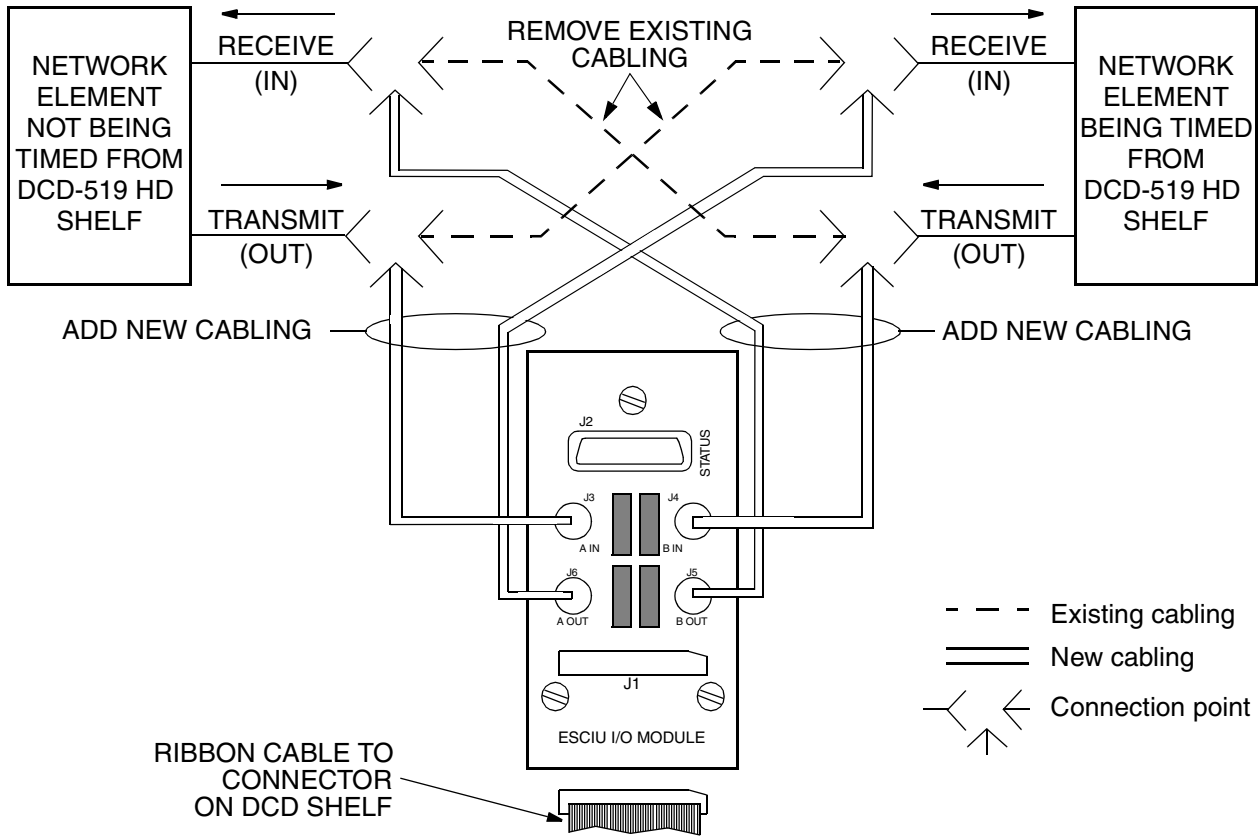
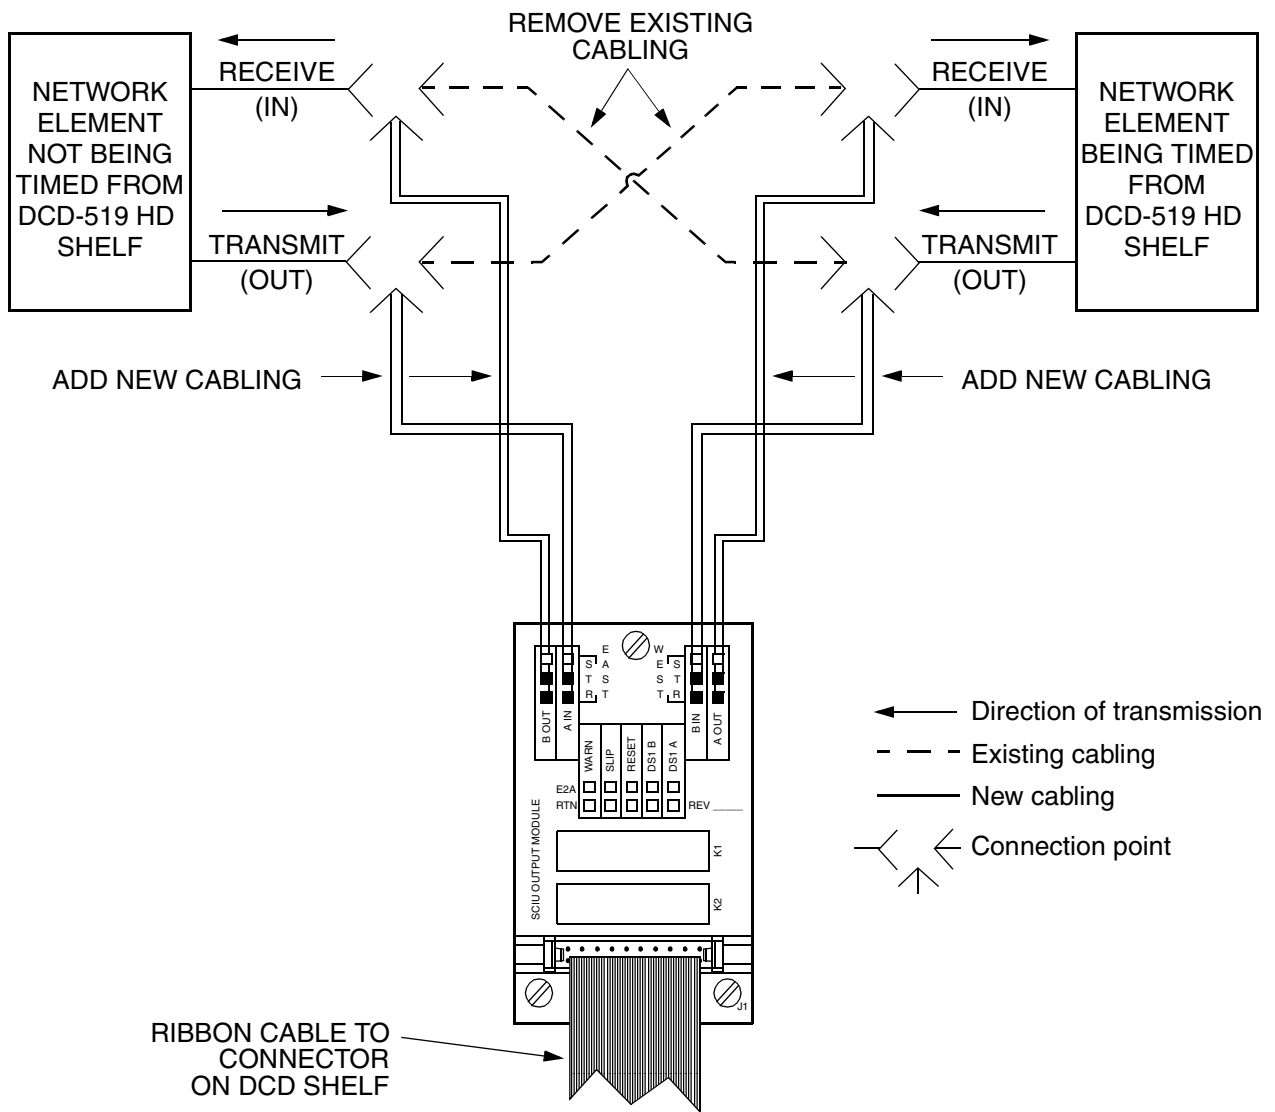

Figure 45. ESCIU Cutover without Jacks (Out-of-Service)
Figure 46. SCIU Cutover without Jacks (Out-of-Service)
5.33 If DDF access jack sets *are not* cabled to the ESCIU or SCIU module, the following out-of-service cutover procedure must be used. Consult the local company Installation Job Specifications to ensure that the network element to be retimed from the DCD-519 HD shelf clock will be connected to the ESCIU or SCIU module correctly. Refer to Figure 45 or Figure 46 for the following procedure: